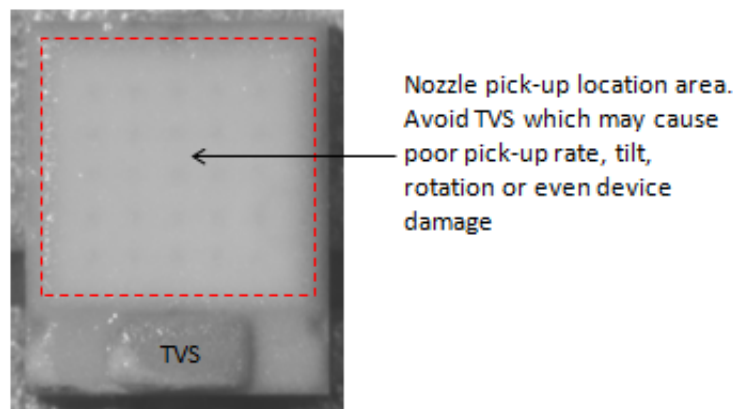

Figure 18. Nozzle pick-up location area for LUXEON Z ES emitters.
- The tip of the nozzle should be positioned on the flat surface above the LED chip area; the area around the TVS should be avoided because of height differences (see Figure 18).
Since LUXEON Z ES has no primary optics or lens which can act as a mechanical enclosure protection for the LED chips, the pick-up and placement force applied to the top of the package should be kept to minimum. The pick-up area on LUXEON Z ES is defined in Figure 18. The placement force (consisting of impact force and dwell force, also known as static force) depends on the nozzle tip material, nozzle spring stiffness, nozzle diameter, vacuum pressure, over travel distance, PCB height differences and PCB warping.